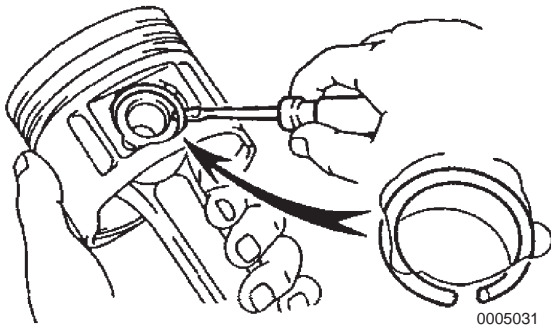

Figure 5-108
4. Pry out the snap ring using a small screwdriver to remove it from the piston (**Figure 5-108**).